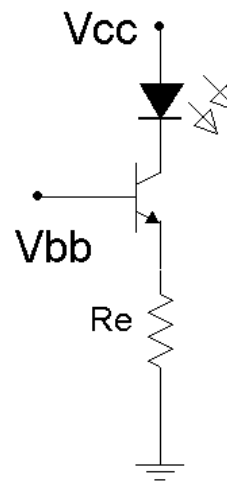

Figure 4.3
7. Consider the non-saturating current source of Figure 4.3 using  $V_{cc} = 10$  volts,  $V_{bb} = 5$  volts and  $R_e = 470$ . Using a typical beta of 150, calculate the base and collector currents, and the collector-emitter voltage and record them in the first row of Table 4.3 (theory).
8. Build the non-saturating current source of Figure 4.3 using  $V_{cc} = 10$  volts,  $V_{bb} = 5$  volts and  $R_e = 470$ . Measure and record the base and collector currents, and record the collector-emitter voltage in the first row of Table 4.3 (experimental). Also compute and record the deviations between theory and experimental results.
12. As seen in steps 7 through 11, the LED current of Figure 4.3 is a function of the base supply and the emitter resistor. Determine a new value for the emitter resistance that will yield an LED current of 15 mA. Record this value in Table 4.4. Obtain a new resistor close in value to the calculated result and swap it into the circuit. Measure the resulting LED current and record in Table 4.4.
14. Simulate the circuit of Figure 4.3 and record the currents and voltage in Table 4.6.
3. The circuit of Figure 4.3 is stated to be a non-saturating current source. How do the data of Table 4.3 confirm this statement?